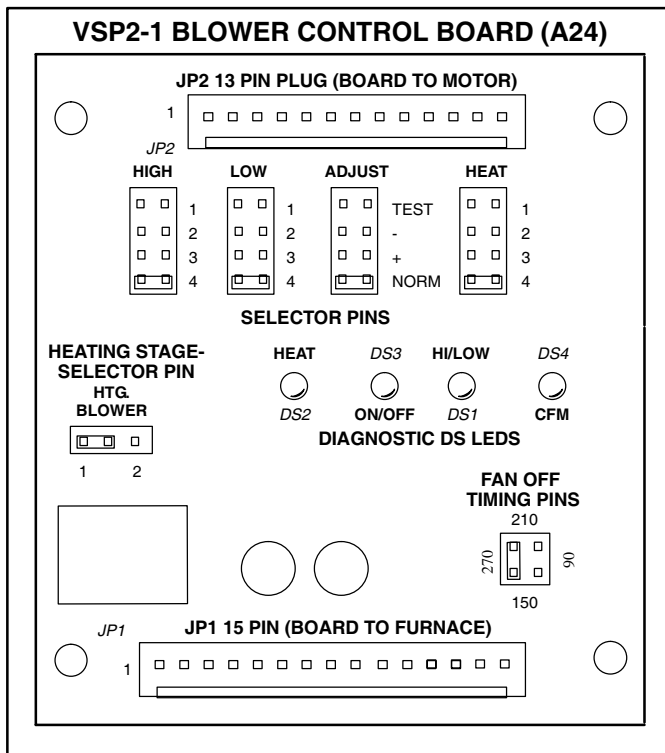

FIGURE 13
Single Stage Heating	See Figure 13 For Pin Setting
NOTE - For single stage heat application with the IMC2 motor, VSP2-1 will have a selector pin for single or second stage heating. See figure 13.
-10 to -15 (Figure 13)
To change jumper positions, gently pull the jumper off the pins and place it on the desired set of pins. The following section outlines the different jumper selections available and conditions associated with each one. Refer to figure 13 for identification.